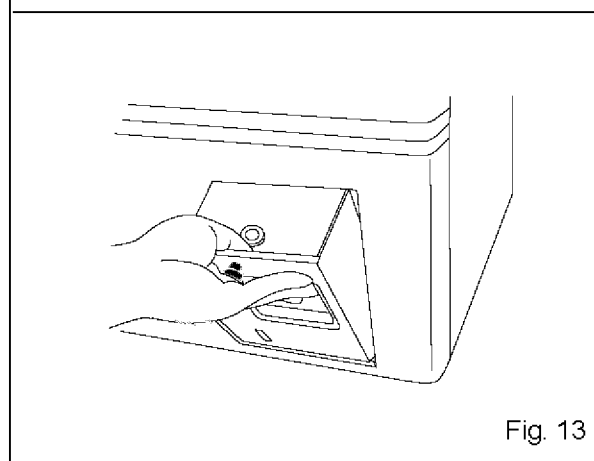

Fig. 13
9. Set the automatic temperature recorder with the frame to the space for automatic temperature recorder. [Fig. 13]